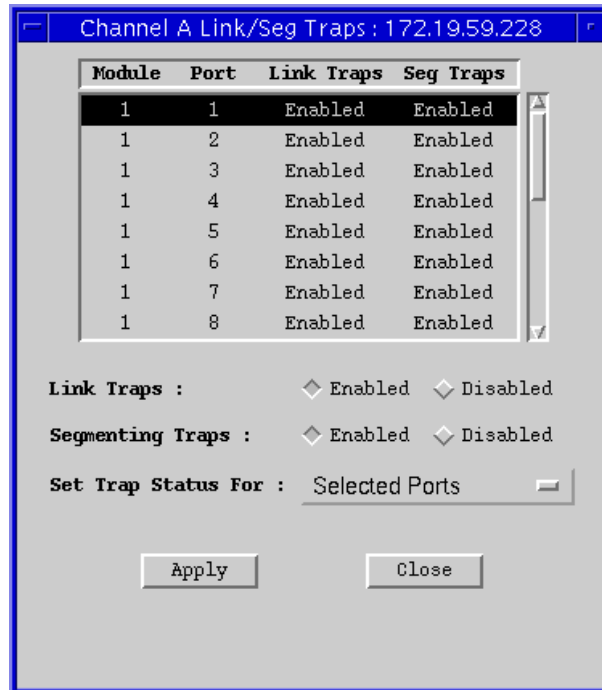

Figure 3-4. The Port Traps Window
2. Click mouse button 1 on ; the Port Traps window, Figure 3-4, will appear.